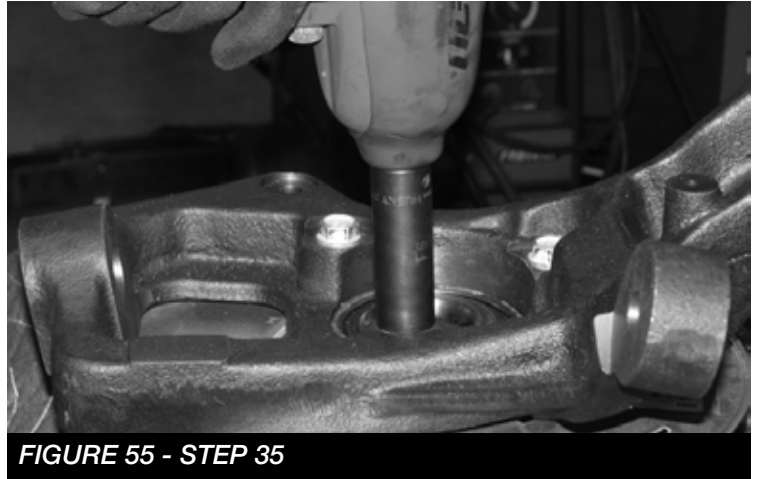

FIGURE 55 - STEP 35
35. Locate FTS20641D or FTS20640D (Driver Knuckle), assemble the new spindle on the hub assembly. Use thread lock on the factory hardware and torque to 125 ft-lbs. Repeat on passenger with FTS20641P or FTS20640P (Pass Knuckle) **SEE FIGURE 55**